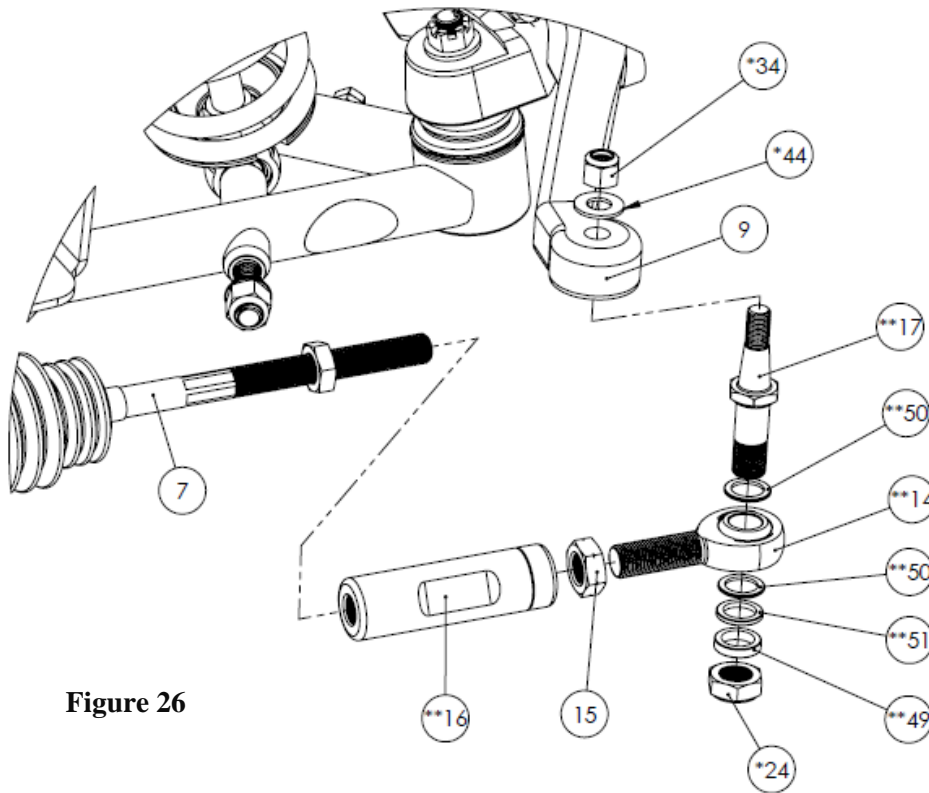

Figure 26
26. Install the left hand threaded 5/8" jam nut (#15) onto left hand threaded 5/8" rod end (#14). Thread the tie rod sleeves onto rod end until threads bottom out. (Figure 26)
28. This suspension system includes (2) thick, (2) medium, and (4) thin spacers for the tie rod kit. Install (1) thin spacer on top of rod end with the remaining spacers on the bottom of the rod end, followed by the nut. Tighten stud (#17) to spindle to 45 lb. ft. Further bump steer adjustments can be made once final ride height is set. Final tie rod adjustment/Toe should be set by a reputable alignment shop.